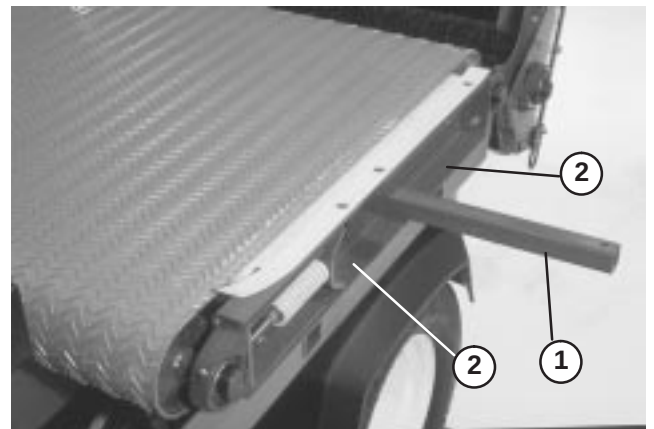

Figure 30
7. Remove (2) capscrews, washers and nut, on left side of machine, securing slider bed to frame (Fig. 30).
- Insert a lift bar into hole on left side of machine and raise lift bar to tip slider bed (Fig. 30).